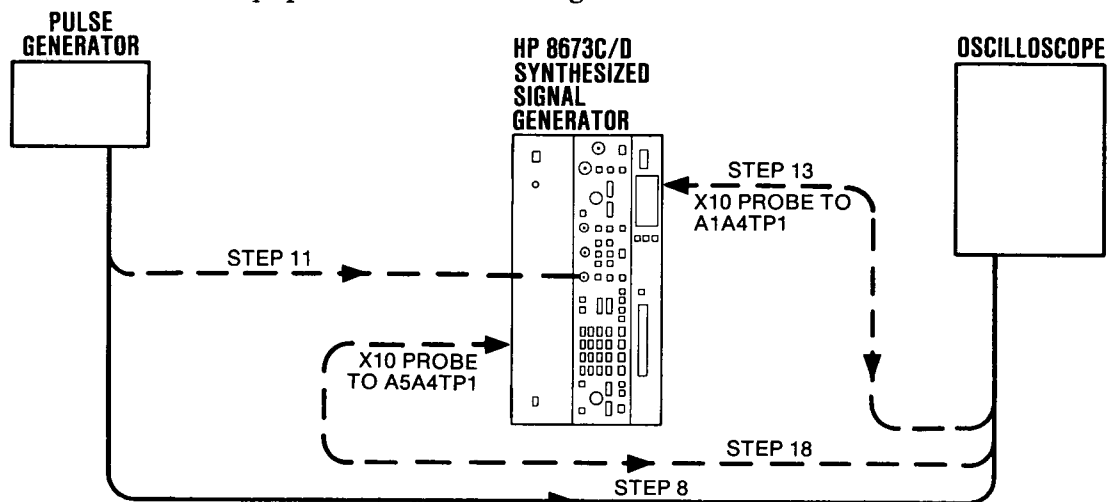

Figure 5-45. Series Pulse Width Adjustment Test Setup
8. Connect the equipment as shown in Figure 5-45.